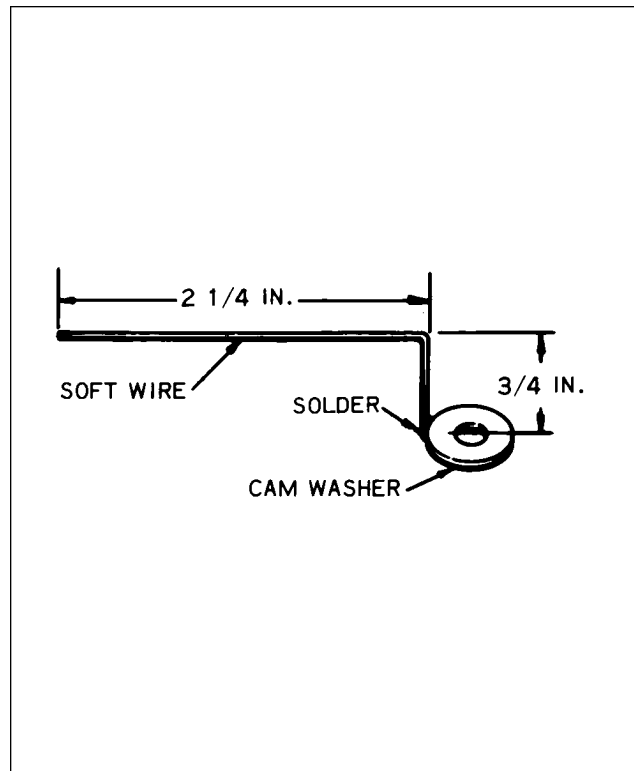

Figure 74-9. Fabricated Pointer
- C. Fabricate a pointer as shown in Figure 74-9 and install the pointer under the cam screw so the pointer indexes in the center of "E" gap position.